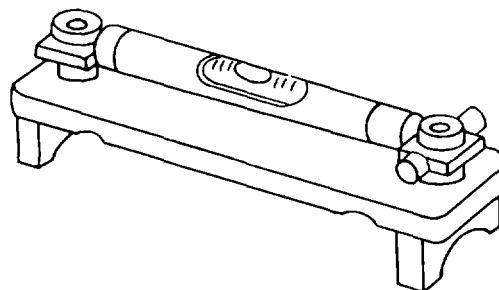

Figure 3-3. Striding Level
(3) *Striding level.* The striding level is a machinist's level which is mounted on a raised base. This level, shown in figure 3-3, is used to span existing cabling, piping, or similar obstructions. It is extremely useful in a machine shop for checking the true horizontal of the flatway on a lathe.